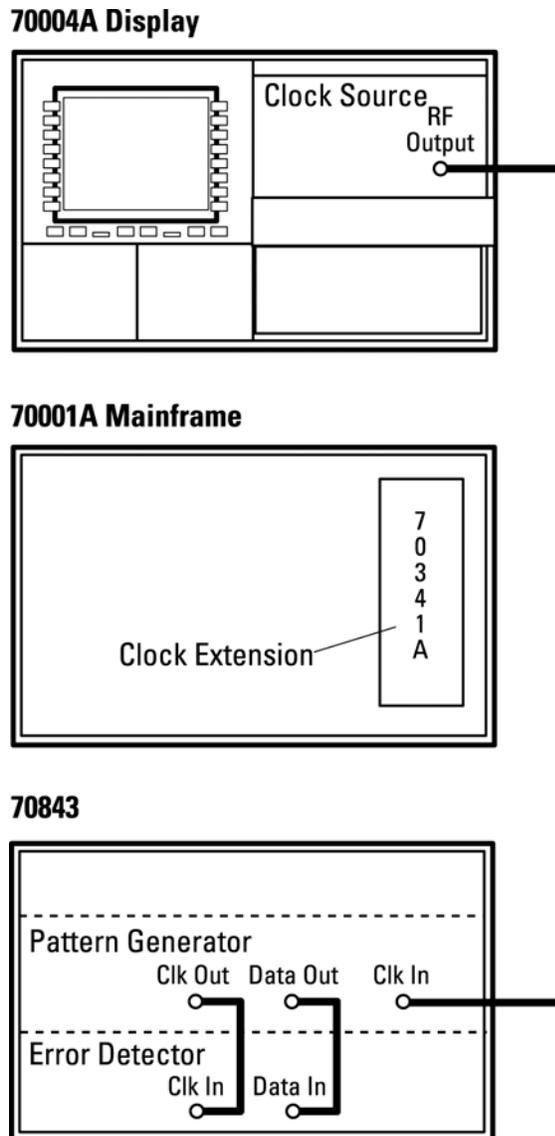

Figure 11-14
1. Connect the equipment as shown in Figure 11-14.